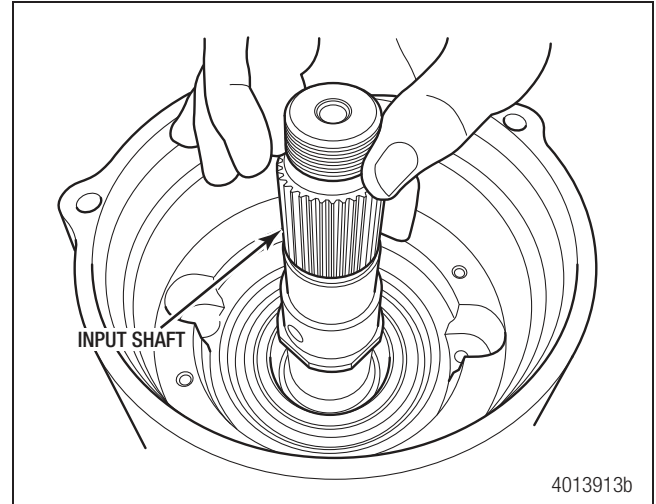

Figure 7.29
10. Install the input shaft assembly into the transfer case. Move the input shaft around as necessary to line up the clutch collars and internal gears until the input shaft is completely seated. Figure 7.29.